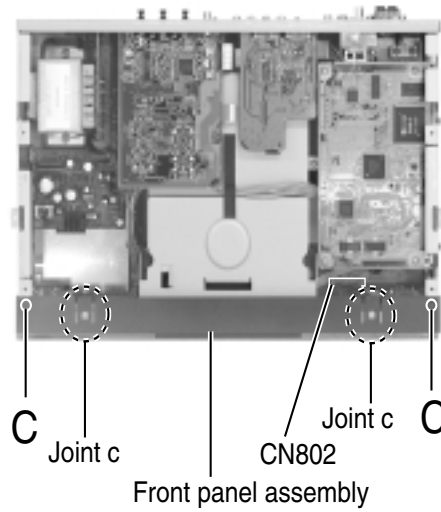

Fig.6
■ Removing the front panel assembly (See Fig. 6 to 9)